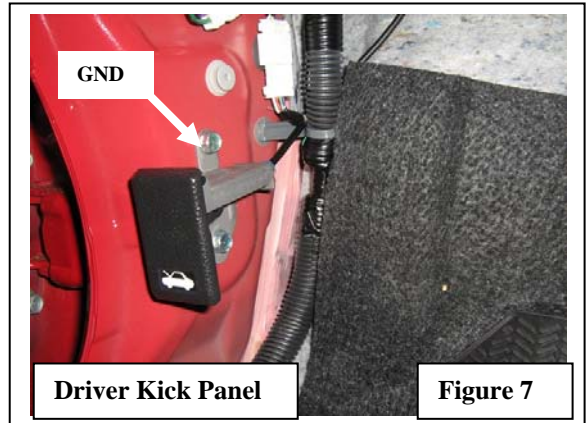

Figure 7
3. Apply the **Black Ground Wire** from the Main Harness to the Vehicle Ground Point at the kick panel. **Figure 7**